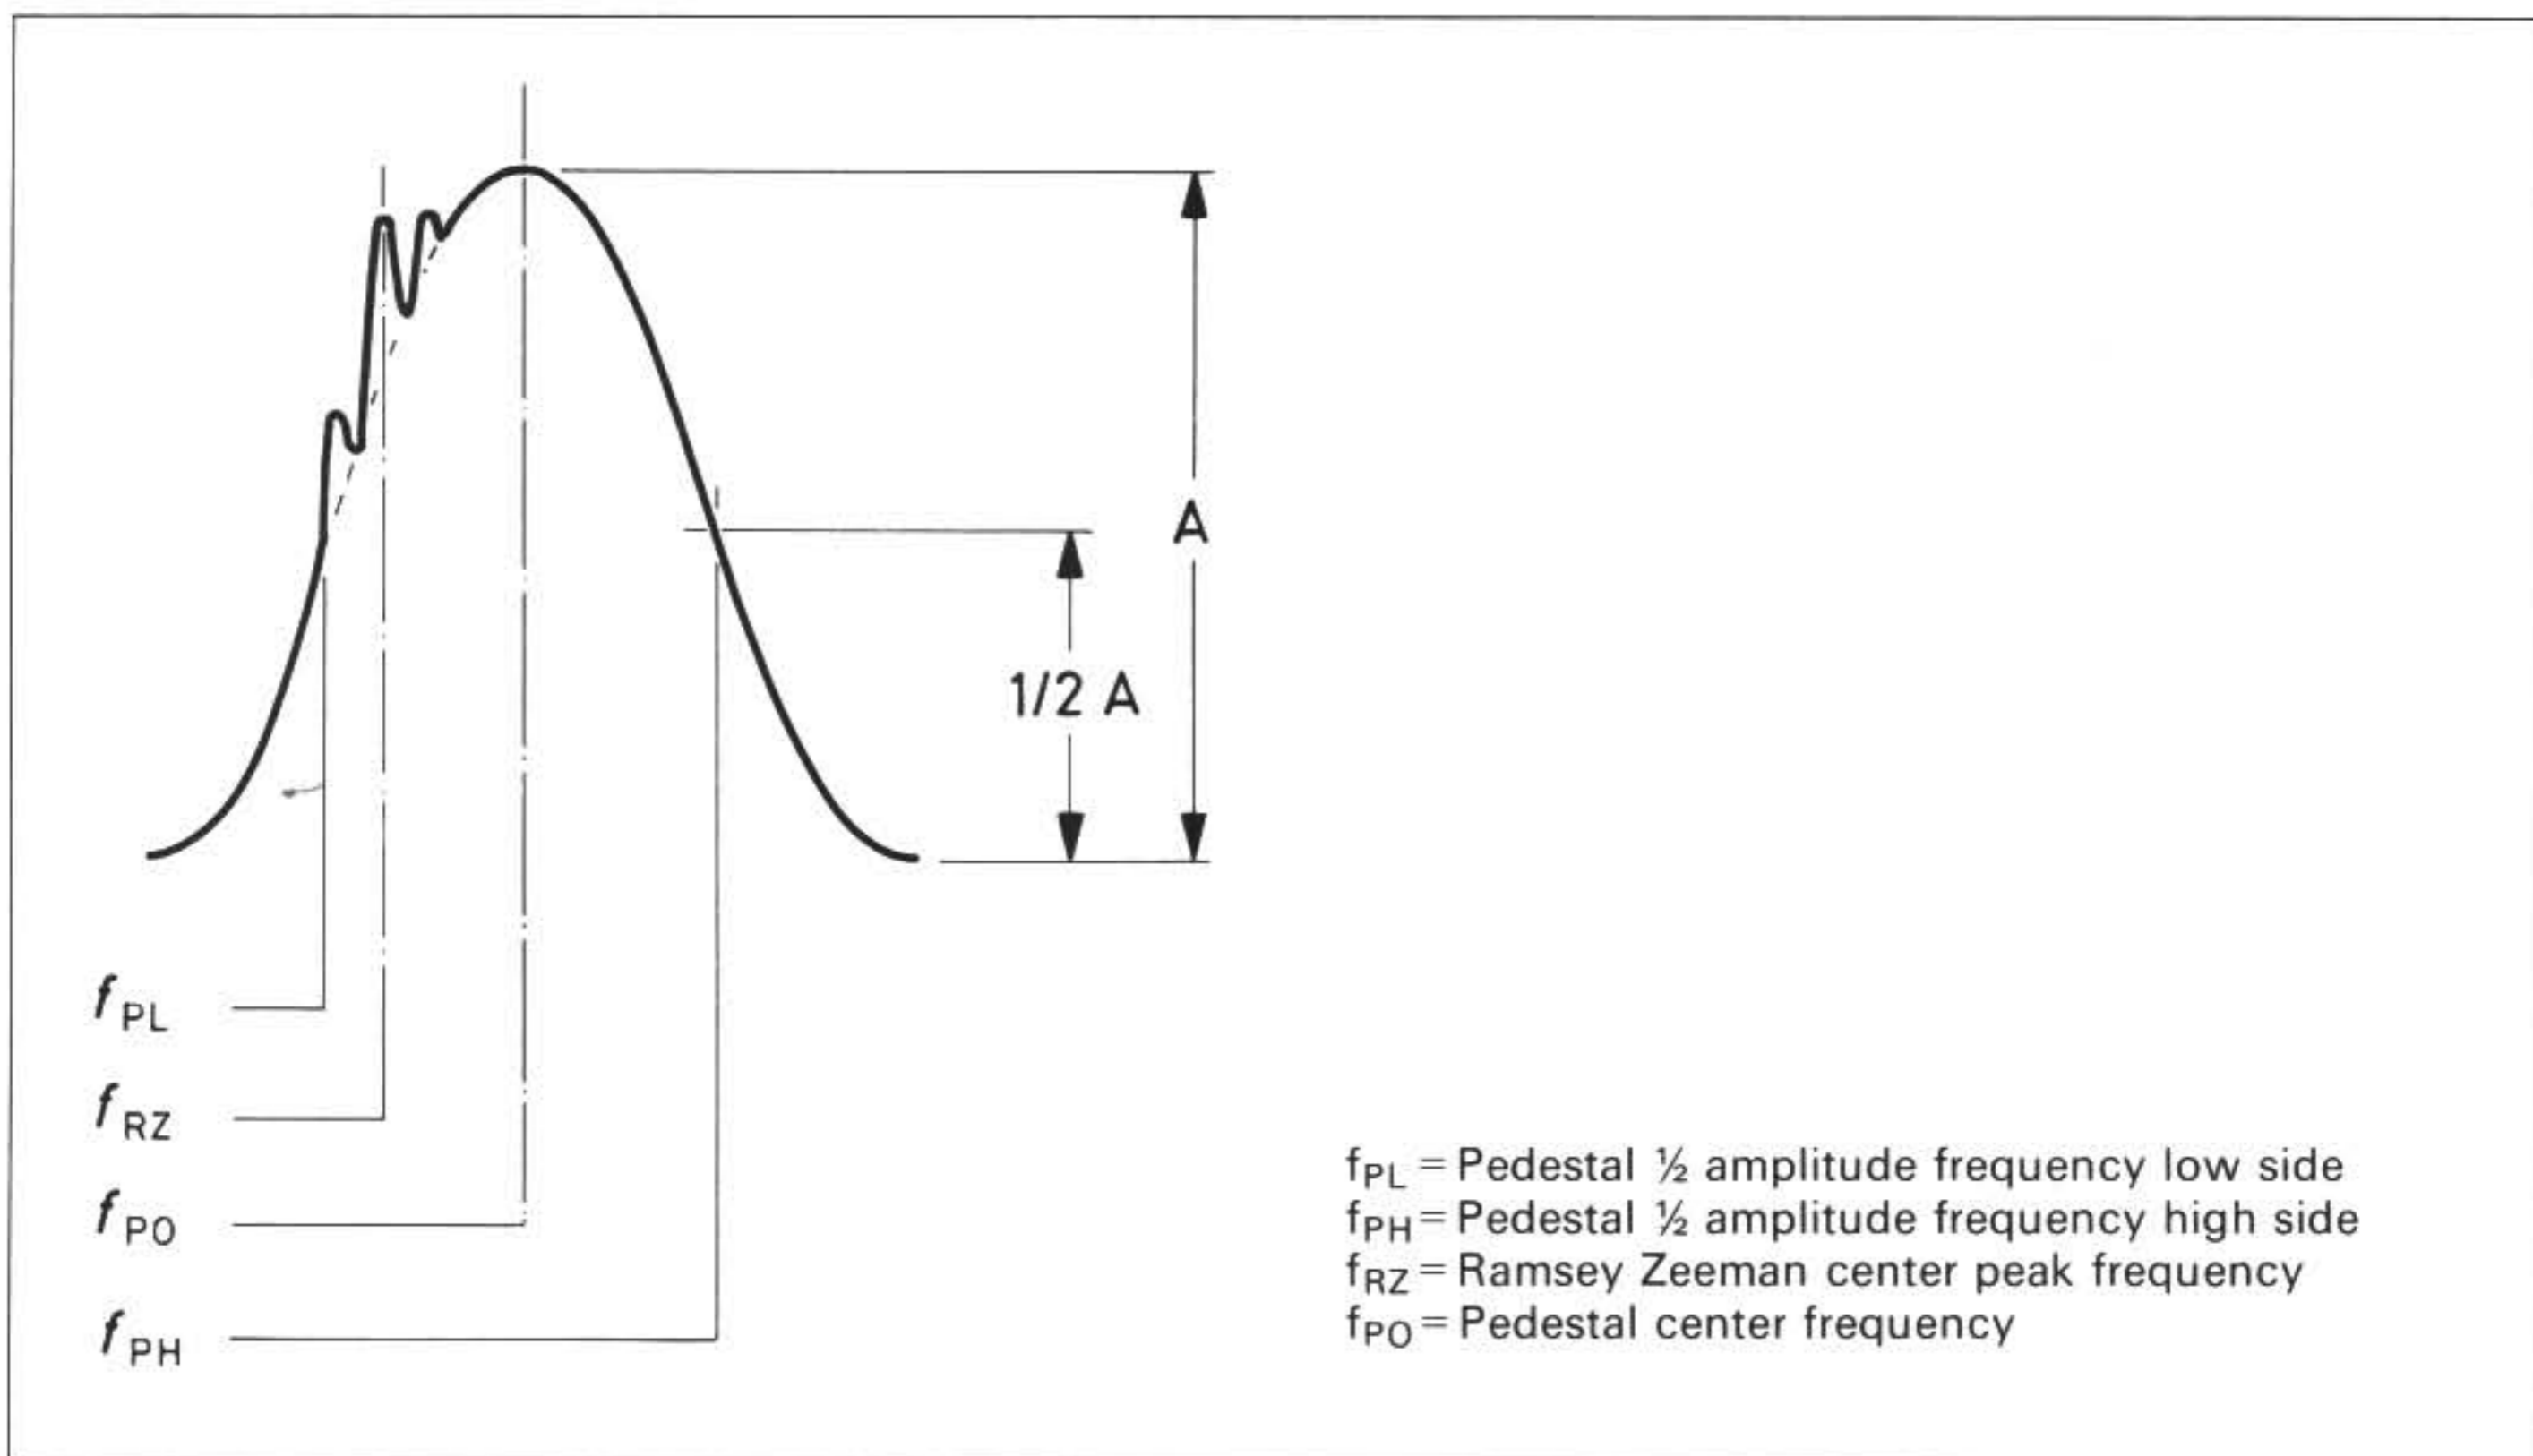

Fig. 22
- The signal response to the Zeeman input signal generator should be the same as a normal Ramsey pattern (fig.11). If inhomogeneities exist in the C-field of the tube, the Ramsey pattern may be displaced from the center of the beam tube pedestal response resulting in a signal such as shown in figure 22.
Note: It is important to realize, as illustrated in figure 22, that the central peak may not be significantly higher than the adjacent peak if the central Ramsey peak is considerably displaced from the pedestal center frequency.
- i) Determine the center frequency of the pedestal by measuring, with the external signal generator, the frequency of the pedestal half-amplitude ($\frac{1}{2} A$) successively at the low frequency and high frequency side (fig. 22). Calculate the pedestal center frequency as $(f_{PL} + f_{PH})/2$. If the difference between the Ramsey center peak frequency and the pedestal center frequency is greater than 1 kHz, the beam tube C-field should be demagnetized according to § 7.10.